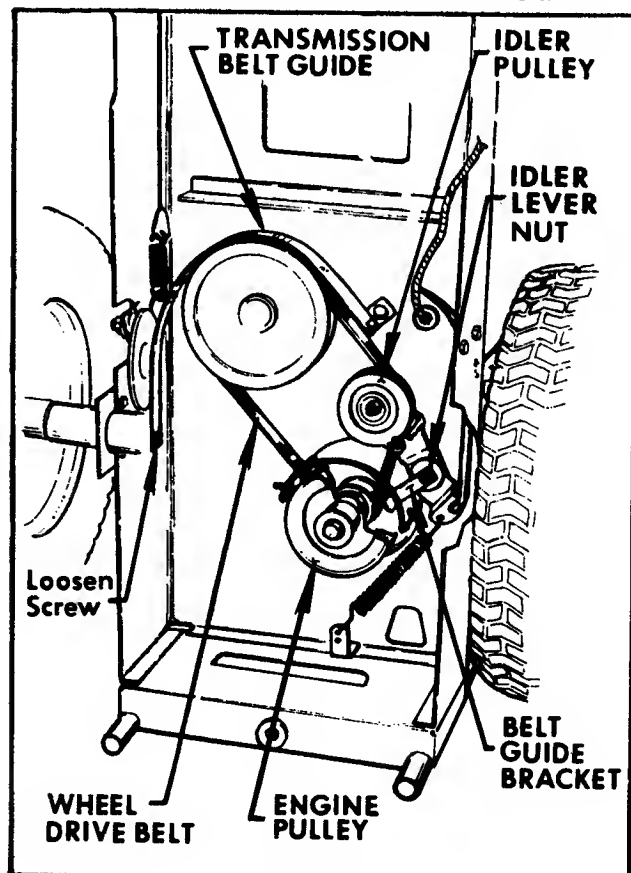

FIG. 31
- Pick up the front of the Rider and stand it on the rear Stand-Up Bars. See FIG. 31.